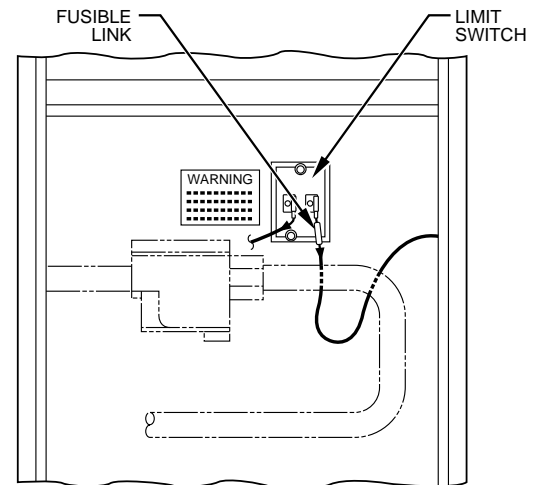

Fig. 1
Step 1—For Fuse Links As Applied In Fig. 1
3. Disconnect fuse link from furnace limit switch. (See Fig. 1.)
8. Connect fuse link to furnace limit switch. (See Fig. 1.)